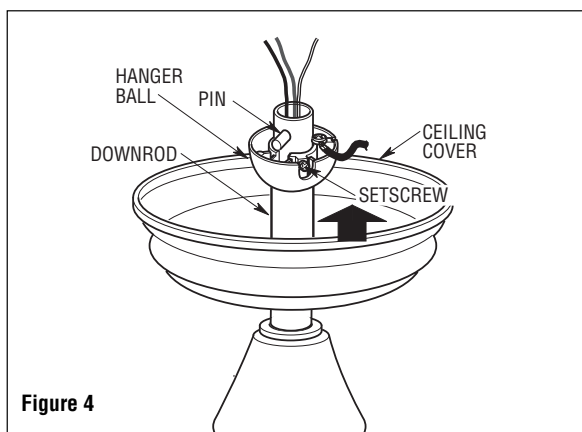

Figure 4
- Reinstall the hanger ball (Figure 4) on the downrod as follows. Route the motor leads through the downrod. Position the pin through the two holes in the downrod and align the ball so the pin is captured in the groove in the top of the hanger ball. Pull the hanger ball up tight against the pin and securely tighten the setscrew in the hanger ball. A loose setscrew could create fan wobble.